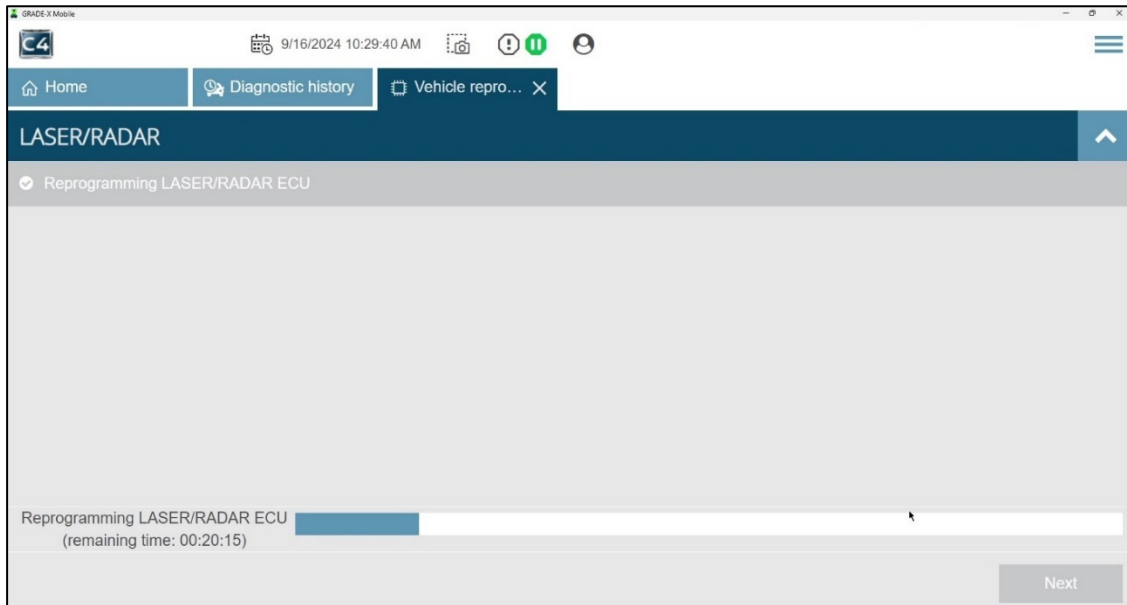

Figure 12
- Reprogramming **LASER/RADAR** ECU progress shown in Figure 12.